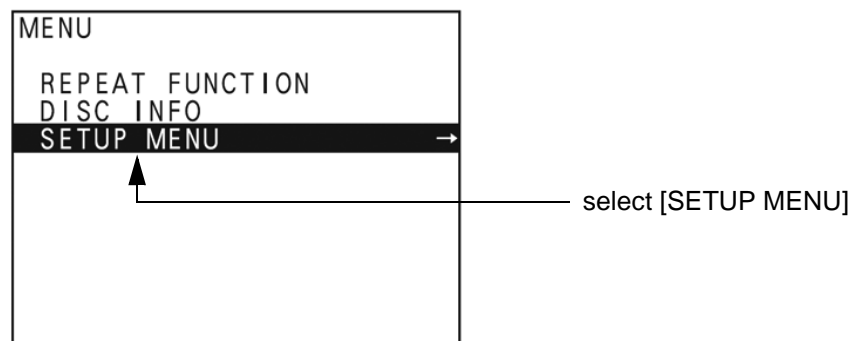

Figure 3-11 "Main Menu" - [SETUP MENU] highlighted
- 3.) The "Main Menu" appears on the LCD screen of the DVD recorder, see: Figure 3-11 below.